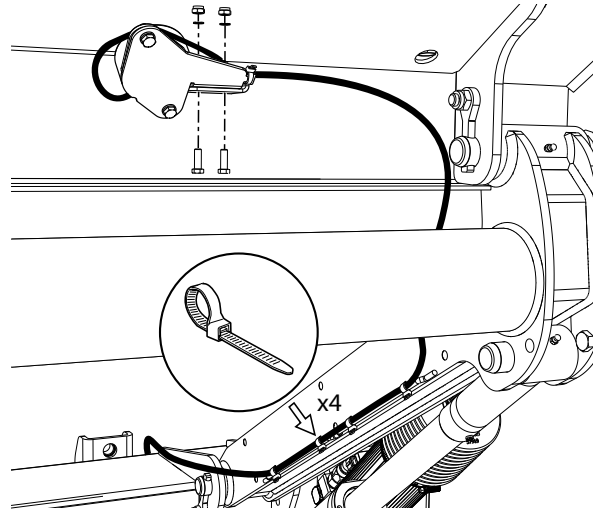

Figure 46. Installing the angle sensor
1. Install the angle sensor on the platform using the nuts, bolts and washers supplied and attach the cable using cable ties; see. Figure 46.